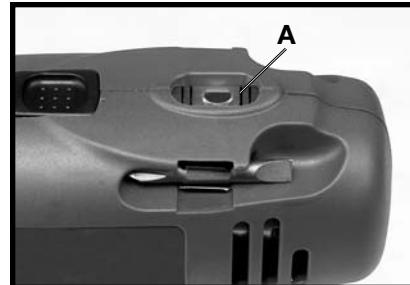

Fig. 9
The Model CL144 is equipped with a horizontal level (A) Fig.9. The level can aid in drilling a horizontal hole.